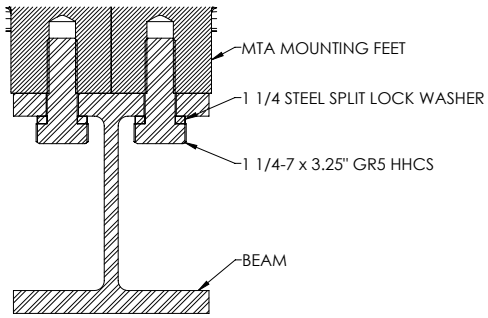

Figure 6 - Beam to Reducer Assembly Hardware
2. Assemble the beam to the reducer as shown in Figure 6 using the hardware specified in Table 6, tightening each bolt lightly.